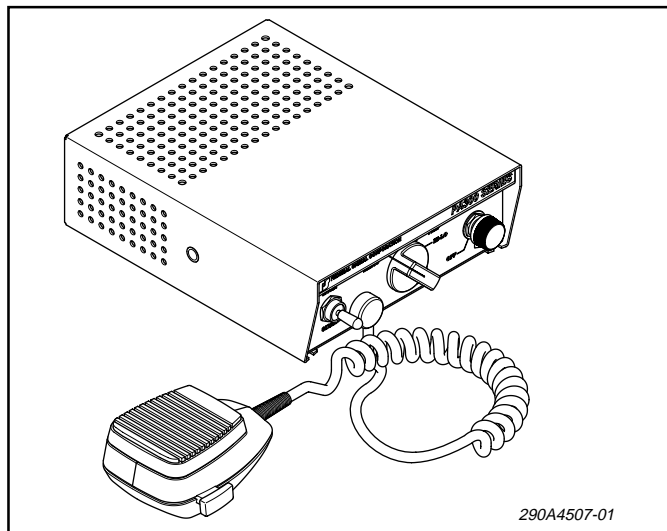

Figure 1-1. Model PA300 Series Electronic Siren.
The Federal Models 690009 and 690010 (PA300 Series) (figure 1-1) are precision built, efficient and economical, full-featured electronic sirens of advanced design. They provide wail, yelp and hi-lo siren tones, as well as the Tap II feature, public address (PA), radio rebroadcast and an air horn sound.